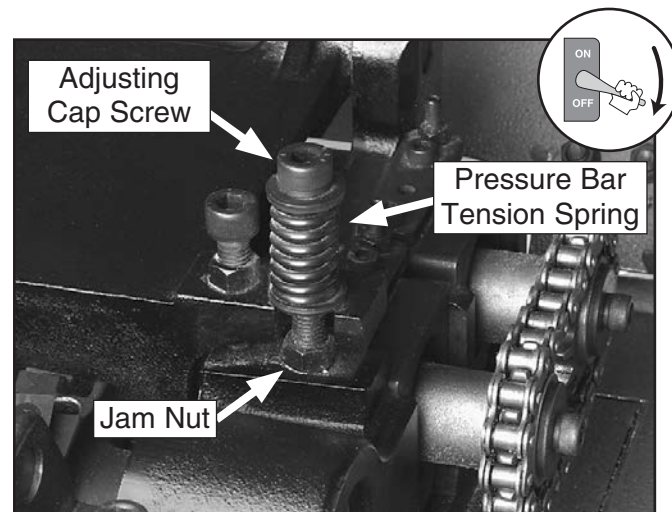

Figure 49. Pressure bar tension spring (right side shown).
2. Lift the headstock cover and identify the pressure bar tension spring (see **Figure 49**).
3. Loosen the jam nut and adjust the cap screw (see **Figure 49**).